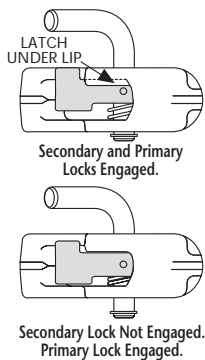

Figure 2
- Push the latch closed. Verify that the primary and secondary locks engage. See Figure 2.